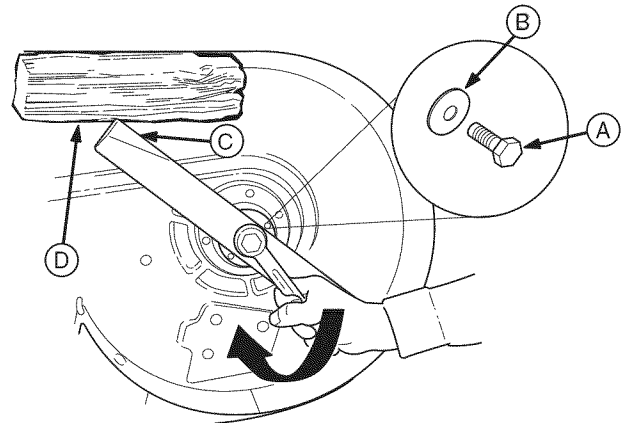

Figure 25. Blade Installation
3. Remove the capscrew (A, Figure 25), spring washer (B), and blade.
7. Reinstall the blade with the lift wings (C, Figure 25) pointing up toward the mower deck as shown.
8. Reinstall the spring washer (B) and capscrew (A). Use a wooden block (B) to prevent blade rotation while tightening the capscrew (A) to 45-55 ft-lbs (61-75 Nm). Turn capscrew clockwise to tighten.